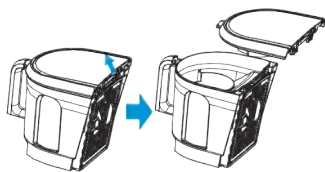

Fig. 9
3. As in Fig.9, put the dust chamber onto the rubbish bin, push the release button to open the bottom of the dust chamber, and the dirt and dust will fall into the bin by itself.